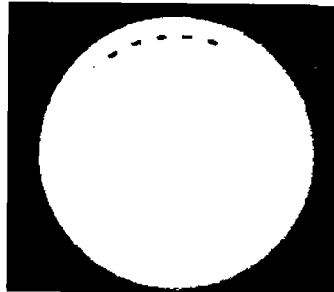

Fig 3-2. Spinning top image of a single pulsed unit using a 50 Hz mains supply
- Therefore a **0.1 sec exposure** should produce **5 spots** (see Fig 3-2).